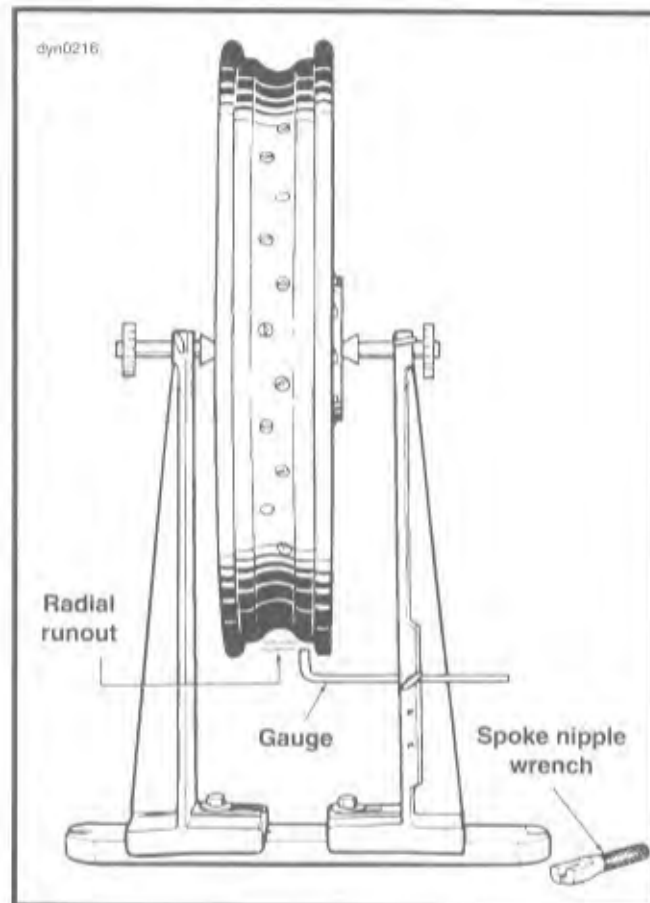

Figure 2-30. Truing Rim Radially
5. See Figure 2-30. After rim has been centered sideways it must be checked and trued radially. Adjust truing stand gauge to the rim's tire bead seat as shown. The rim should be trued within 0.030 in. (0.76 mm).